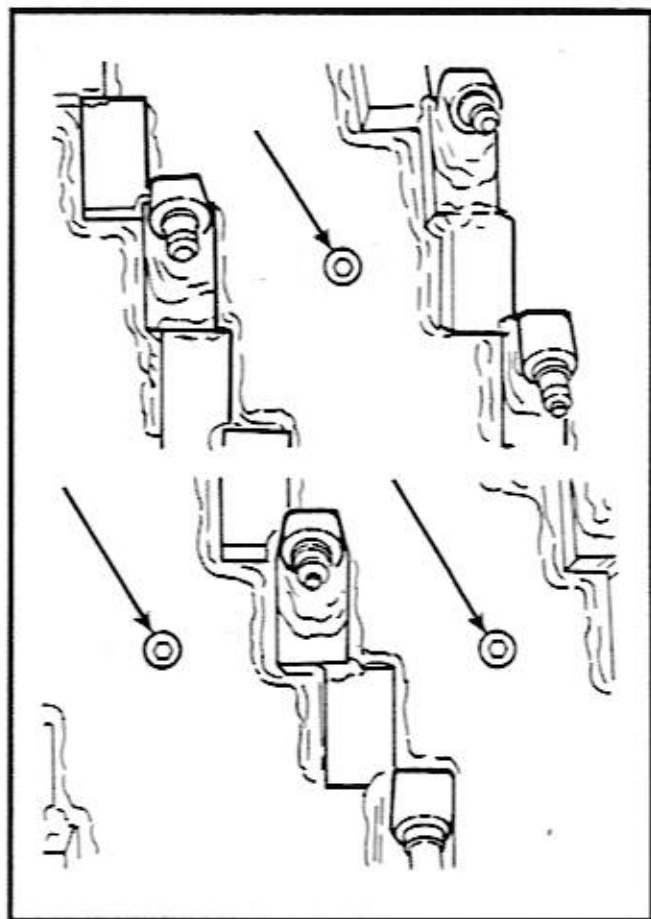

Figure 11-6. Drum Coolant Plugs
Within the drum is a mixture of water and anti-freeze to aid in cooling of the Cutter Drum. Check and if necessary, add a 50-50 mixture of water and a permanent type anti-freeze. The plugs to check/drain the drum are located on the right side of the drum. Maintain the level at approximately eight (8) inches below the fill plug with the fill plug in the 12 o'clock position. Refer to Figure 11-6.